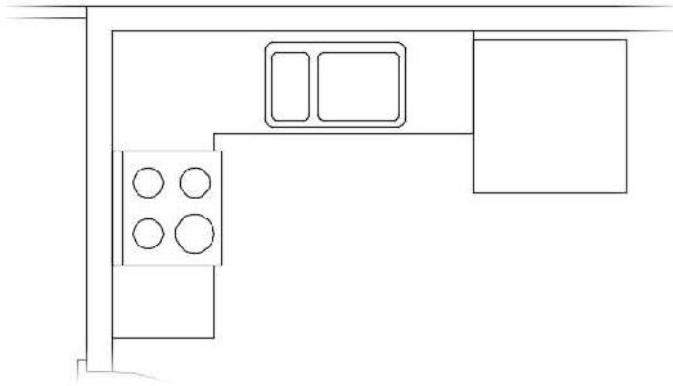

FIGURE 7.30: Zooming in to the kitchen
3. Zoom in to a view of the kitchen so that you can see both walls, as shown in Figure 7.30.